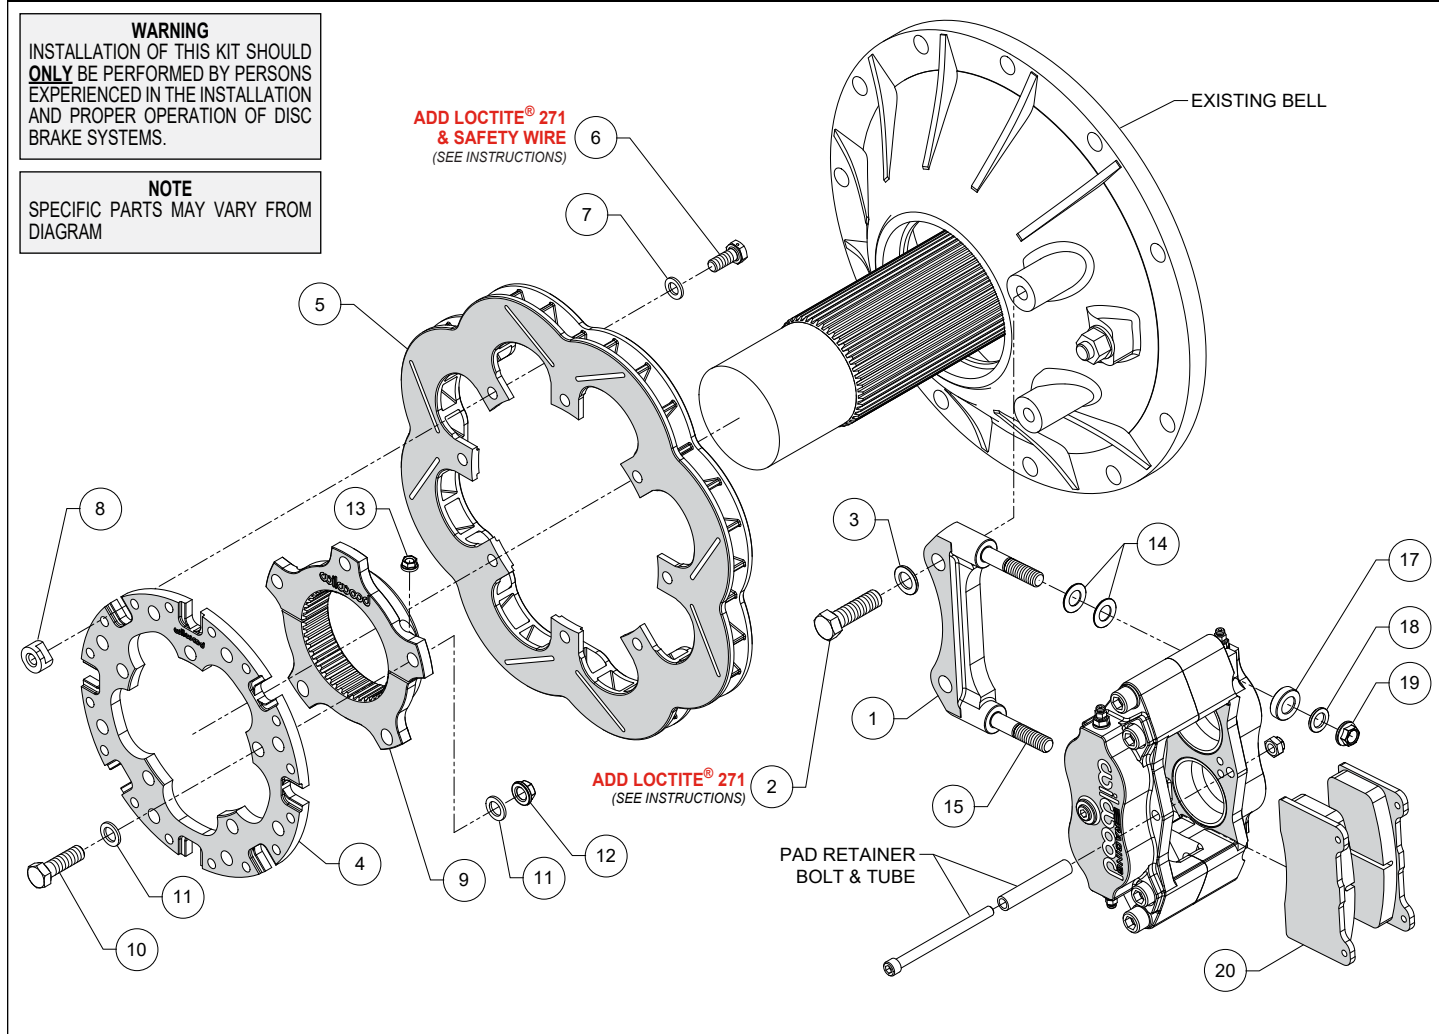

Figure 1. Typical Installation Configuration
NOTE: Numbers in parenthesis refer to the parts list and Figure 1 on the preceding page.
- Orient the caliper mount bracket (1) as shown in Figure 1 and install using bolts (2) and washers (3). Temporarily tighten the mounting bolts. **NOTE: The bracket must fit squarely against the mount bosses on the bell.** Inspect for interference from casting irregularities, machining ridges, burrs, etc. Remove the bracket mounting bolts one at a time, apply red *Loctite*® 271 to the threads, and torque to 60 ft-lb.
- Orient the rotor adapter (4) and the rotor (5), as shown in Figure 1, and attach using bolts (6), washers (7), and t-nuts (8), Figure 1. Apply red *Loctite*® 271 to the bolt threads before installing. Finger tighten. After all t-nuts have been installed, torque bolts to 220 in-lbs using a criss-cross pattern. Please refer to Wilwood's data sheet DS-669 (available at www.wilwood.com/Pdf/DataSheets/ds669.pdf) for complete t-nut bolt kit installation instructions.
- Orient the axle clamp assembly (9) as shown in Figure 1 and install onto the rotor adapter (4) using bolts (10), washers (11), and lock nuts (12). Tighten lock nuts part way while still allowing clamp-to-rotor movement. The lock nuts will be final tightened later, after aligning the rotor. **NOTE:** *The axle clamp should be positioned inside of the rotor as shown in Figure 1, not offset, or outside of the rotor adapter.*
- Initially place two .030" thick shims (14) on each stud (15) as shown in Figure 1. Mount the caliper (16) onto the bracket (1) using spacers (17), washers (18), and caliper lock nuts (19), Figure 1. **NOTE:** *Spacer is to be located on top of caliper as shown in Figure 1.* Temporarily tighten the lock nuts (19) and view the rotor through the top opening of the caliper. The rotor should be centered in the caliper. If not, slide the rotor/adapter assembly on the axle until the rotor is centered in the caliper. Tighten the clamp lock nuts (13) first, Figure 1, locking the clamp to the axle. Torque rotor adapter lock nuts (12) to 30 ft-lb.
- Remove the caliper center bridge pad retainer bolt, nut, and tube from the caliper. Insert the brake pads (20) into the caliper, with the friction material facing the rotor. Check that the top of the brake pad is flush with the outside diameter of the rotor. If not, adjust by adding or subtracting shims (14) between the caliper and the bracket. After the caliper pad height is set, torque the caliper lock nuts (19) to 30 ft-lb. Secure the brake pads in place with the center bridge pad retainer tube, bolt, and locknut. The locknut should be snug without play in the bolt or tube. Be cautious not to over tighten.